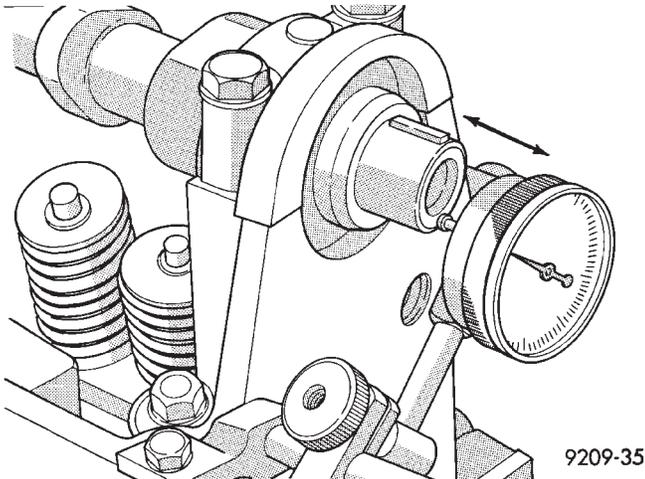

Fig. 9 Camshaft End Play
(1) Oil camshaft journals and install camshaft without cam followers. Tighten screws to specified torque.
(2) Using a suitable tool, move camshaft as far rearward as it will go.
(3) Zero dial indicator (Fig. 9).
(4) Move camshaft as far forward as it will go.
(5) End play travel: 0.13 - 0.33mm (0.005 - 0.013 inch.)
(6) Remove bearing caps and camshaft.